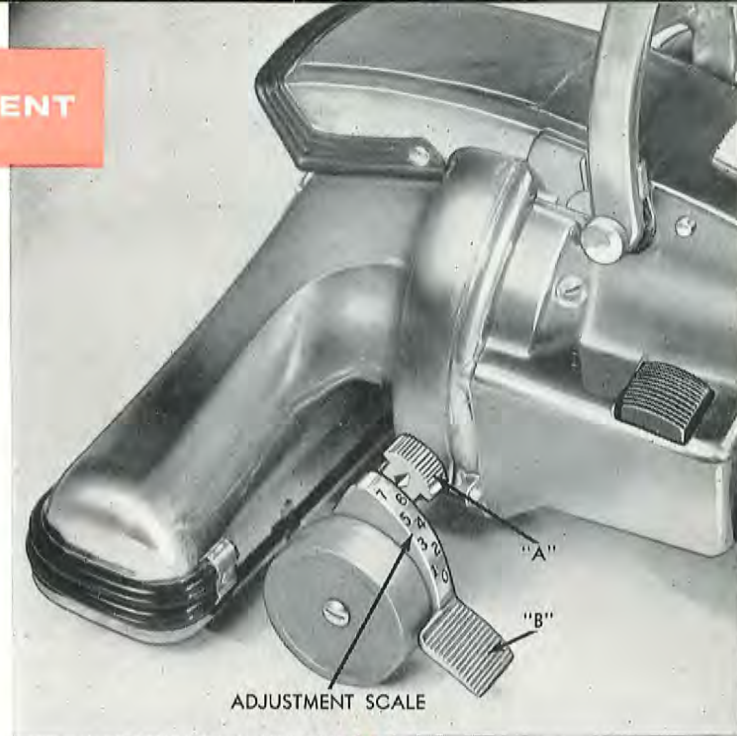
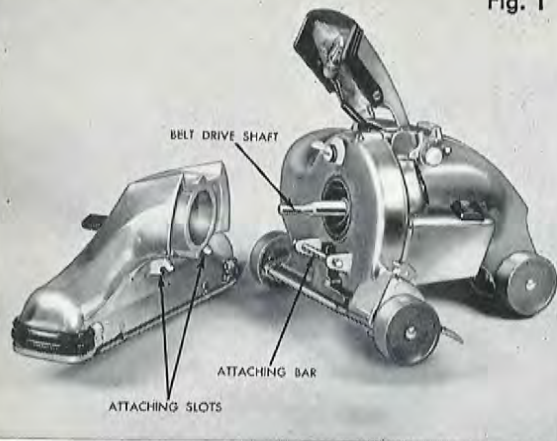

Fig. 1
Fig. 2
STEP 3: Place Attaching Slots at back of Rug Nozzle on the Attaching Bar. (see figures 1 and 2). Swing nozzle back toward Motor Unit with a slight downward pressure to overcome spring tension on Safety Switch (see figure 2). Hold nozzle in place with one hand and lock in place with Attachment Lock Lever at top-front of Motor Unit. (see figure 3).